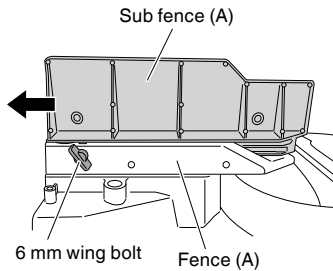

Fig. 12
When right angle cutting, loosen the 6 mm wing bolt, then slide the sub fence (A) outward and remove it, as shown in Fig. 12.
5. Confirmation for use of sub fence (B)
**⚠ WARNING:** When left angle cutting, loosen the 6 mm wing bolt, then slide the sub fence (B) outward.
**Failure to do so may result in the main body or saw blade coming into contact with the sub fence (B) and causing injury.**